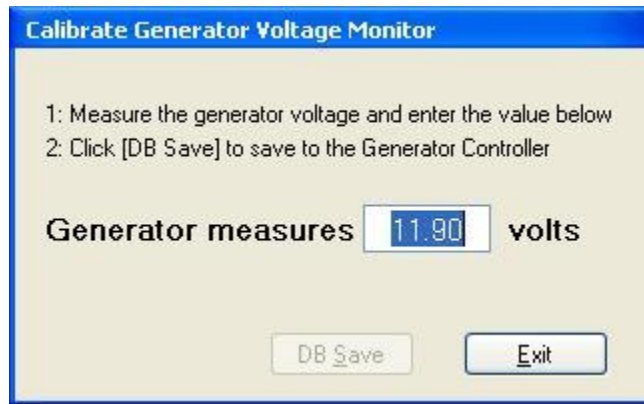

Figure 3-20. Calibrate Generator Voltage Monitor screen
11. Click **Calibrate > Generator Volts** (Figure 3-20 below). With the generator in standby (controller switch set to DISABLE), measure the battery voltage and enter the value in the text box provided. Click **DB Save** to save the value.